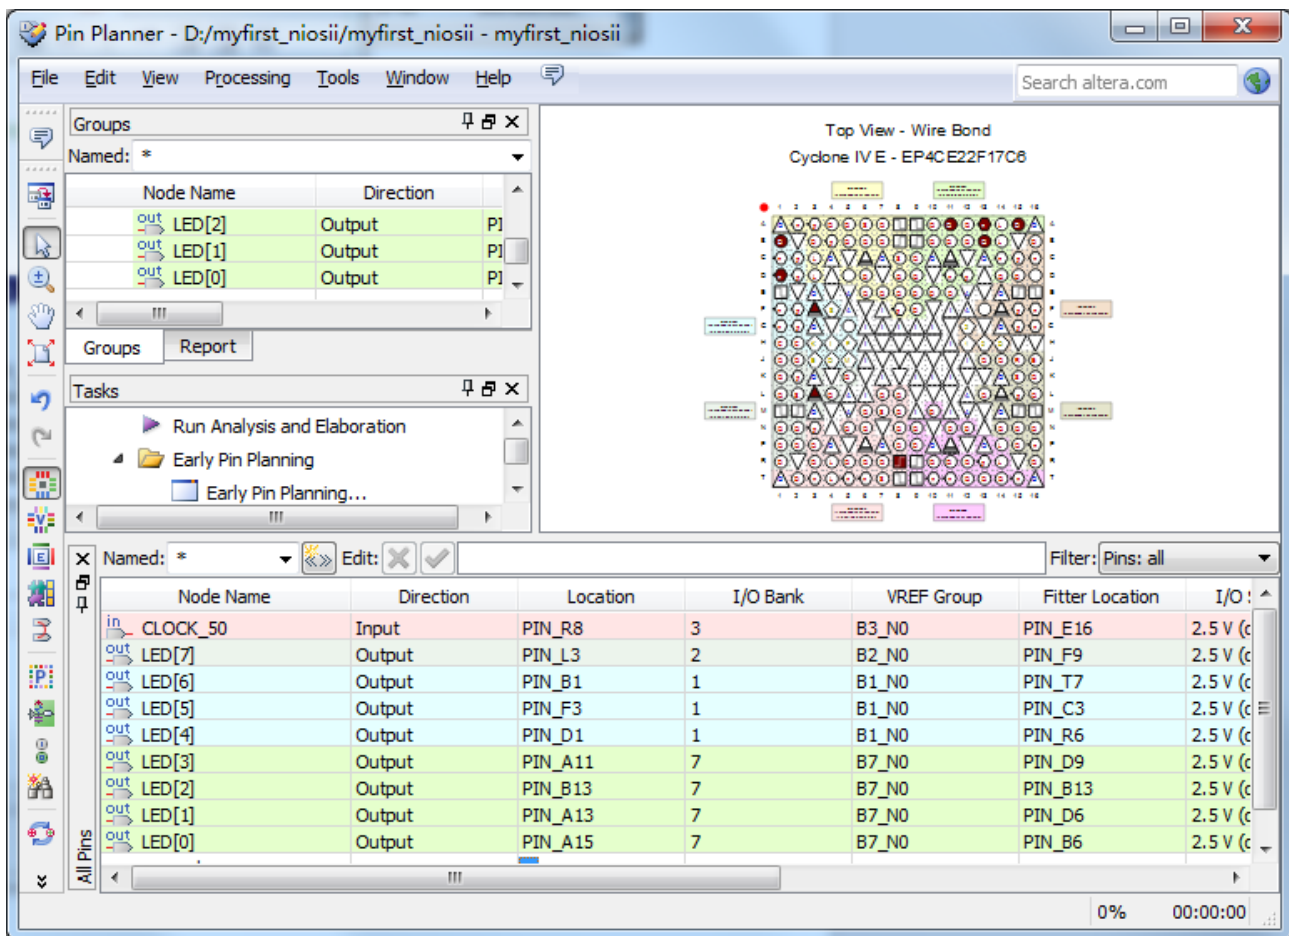

Figure 1-67 Set Pins
40. Input Location value as shown in **Figure 1-67**.